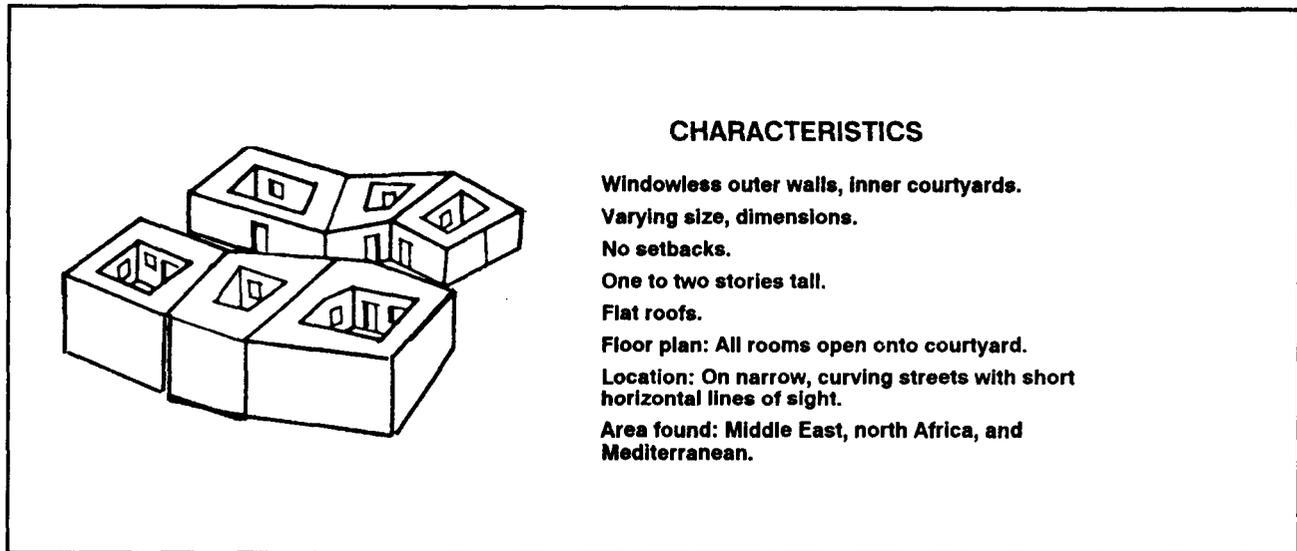

Figure H-20. Enclosed courtyard.
b. In the Mideast and tropical regions, the most common housing is the enclosed courtyard. Houses are added one to another with little regard to the street pattern. The result is a crooked, narrow maze, which is harder to move through or fire in than dense European areas (Figure H-20).